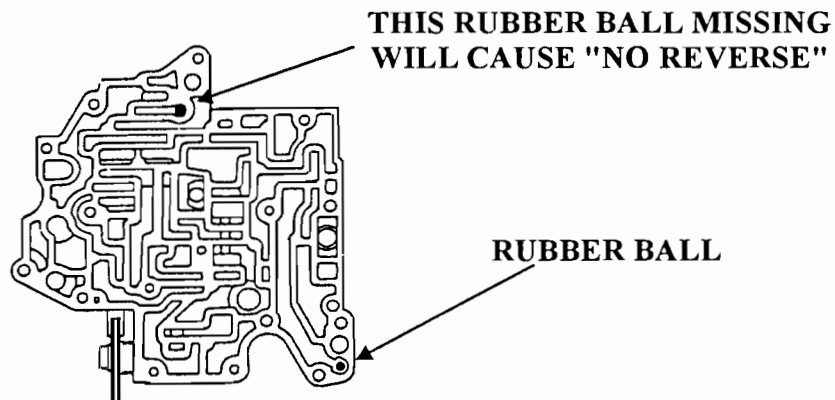

Figure 72
1. Install missing check ball in the Upper valve body as shown in Figure 72.